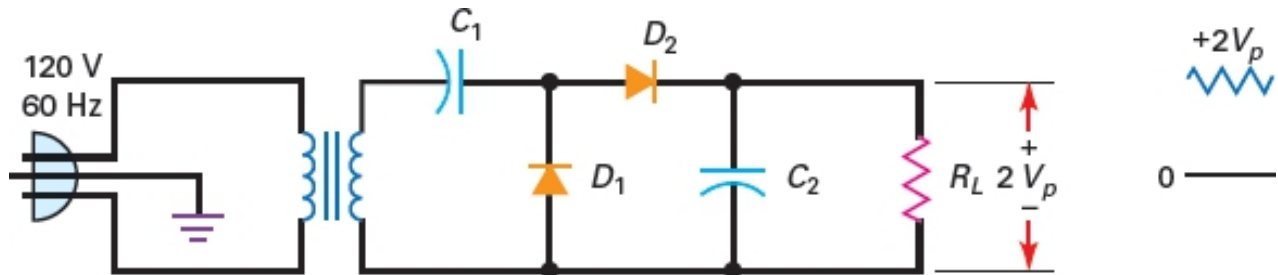

Figure-82 Voltage Doubler
- Figure-82 is a voltage doubler. The configuration is the same as a peak-to-peak detector, except that we use rectifier diodes and operate at 60 Hz.
- Figures-85a, b, and c show variations of the voltage multipliers. Figure-85a merely adds grounds to Figure-82.